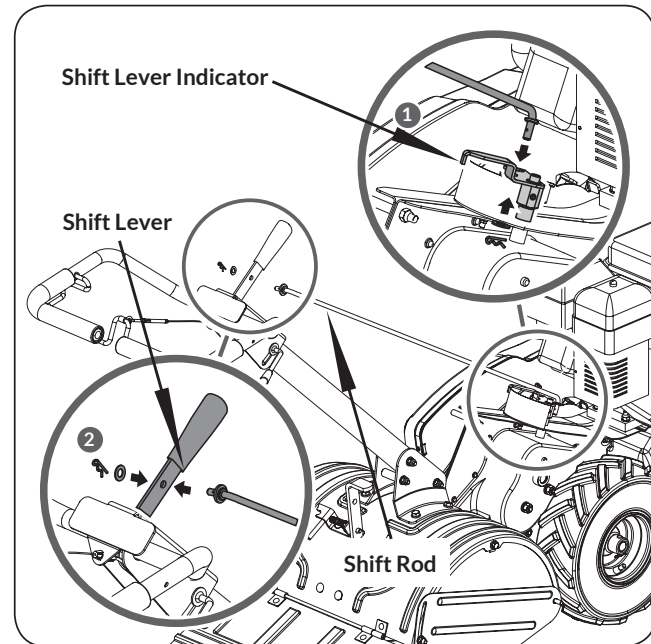

Figure 3
1. Insert Lower end of shift rod into hole of shift lever indicator. Fasten with bridge clip and washer. (see **Figure 3, Illustration 1**)
2. Insert the upper end of shift rod into hole of shift lever. Fasten with bridge clip and washer. (see **Figure 3, Illustration 2**)